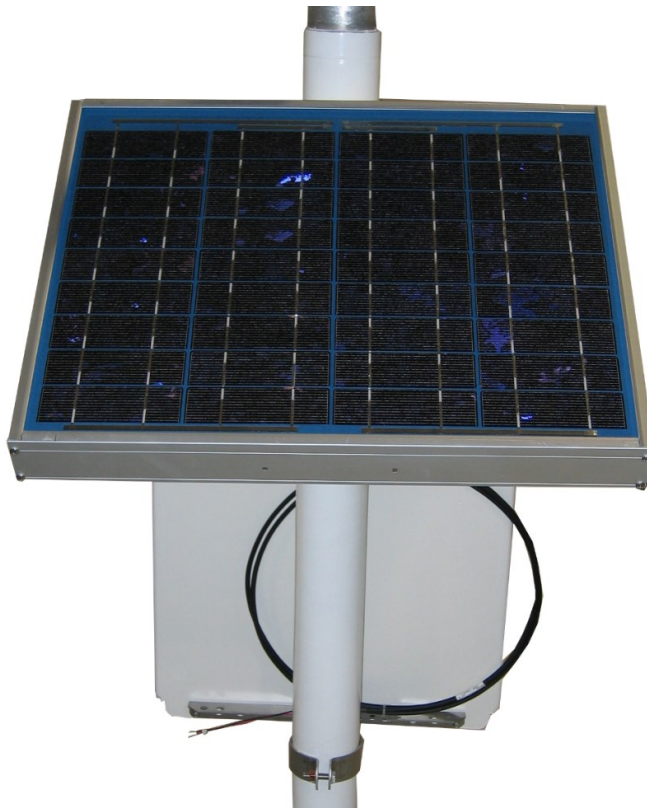

FIGURE B-9. Fully mounted solar panel
7. Install the solar panel above the PS24 enclosure, and face the solar panel south (FIGURE B-9 (p. 95)).